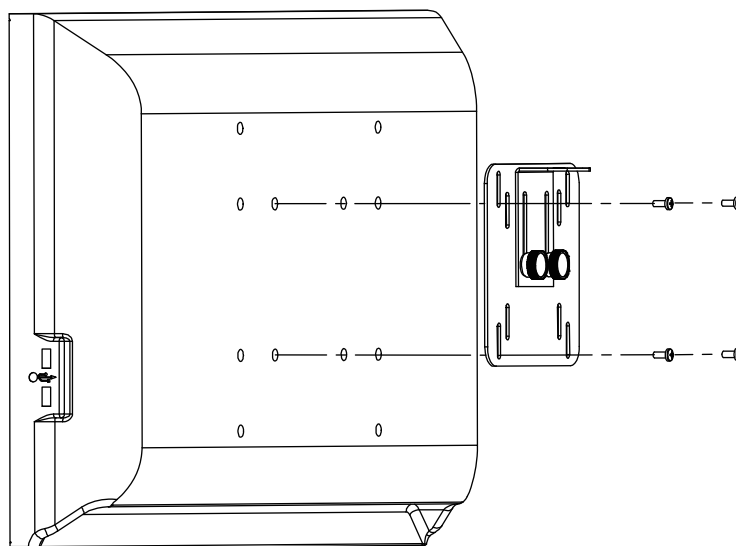

Figure 2 - Attaching VESA plate to monitor
4. Align VESA plate to mounting pattern. Use provided screws to attach the VESA plate to the monitor. Make sure that the attached VESA bracket angle is facing away from the monitor and that it is oriented to achieve the desired fixture position (*figure 2*).